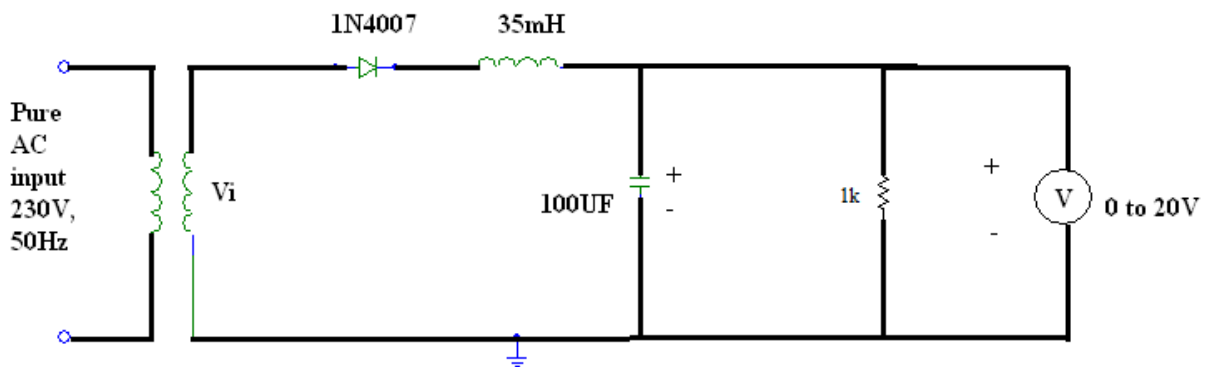

Fig. 1: Half wave rectifier with L-section Filter
1. Connect the circuit as shown in the fig.1.